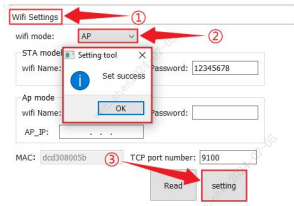

Fig.4
3. Once the AP IP address has been set, click on the “Read” button to obtain the AP IP address (shown in Figs.4 and 5).